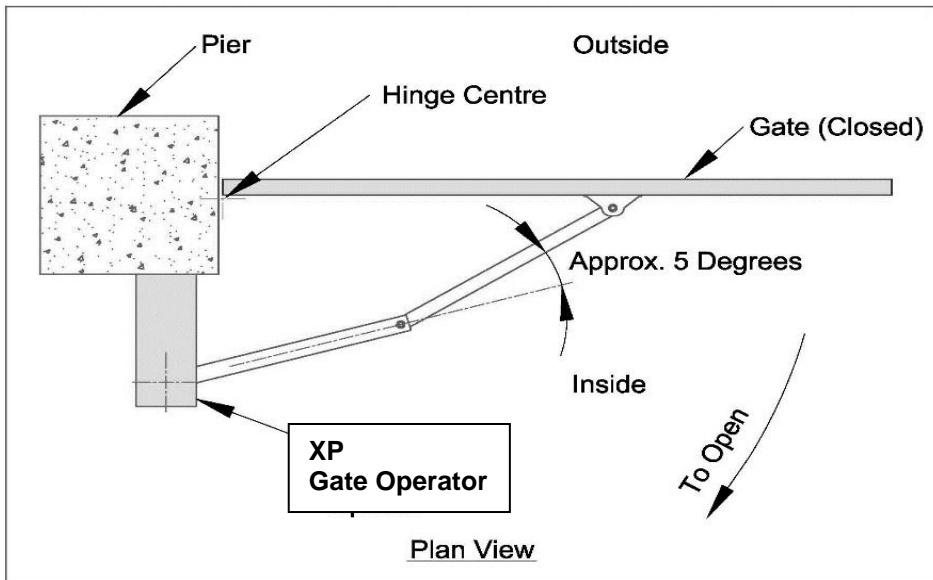

Figure 4: Standard installation.
5. The gate bracket should be positioned so the arms are ALMOST in a straight line when the gates are closed (see figure 4). To check the location of the gate brackets first disengage the Main arm from the drive shaft (using the spanner provided unscrew the bolt until the arm swings freely) then clamp the gate bracket in position. Open and close the gate to ensure the gate bracket is appropriately located.